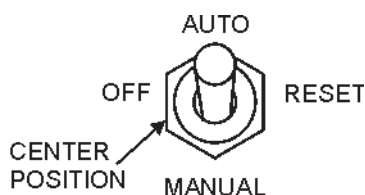

Figure 56. Off/Manual Auto Switch (OFF)
4. Place the Off/Manual/Auto Switch (Figure 56) in the "OFF/RESET" position